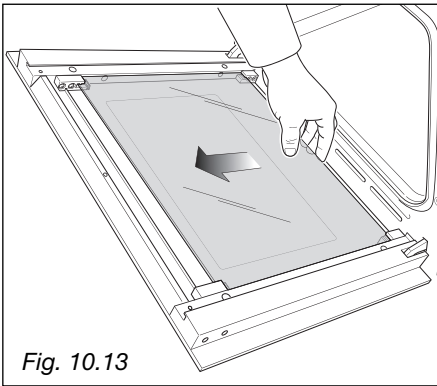

Fig. 10.13
- Gently unlock the middle pane of glass from the bottom clamps by moving it as in fig. 10.13.